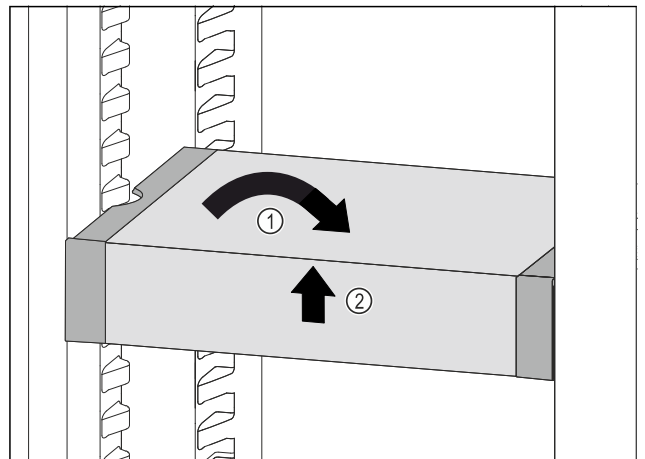

Fig. 118
- Set VarioSafe straight. Fig. 118 (1)
- Lift VarioSafe at the front. Fig. 118 (2)